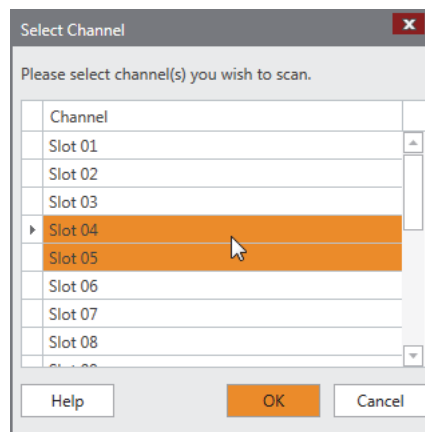

Figure 11-9 Select BMI Slots for Scan
11. If you elected to automatically add a DTM (Scan and Select) in the previous step, you will be prompted for a list of channels to scan as shown in Figure 11-9. These correspond to physical slots on the BMI.